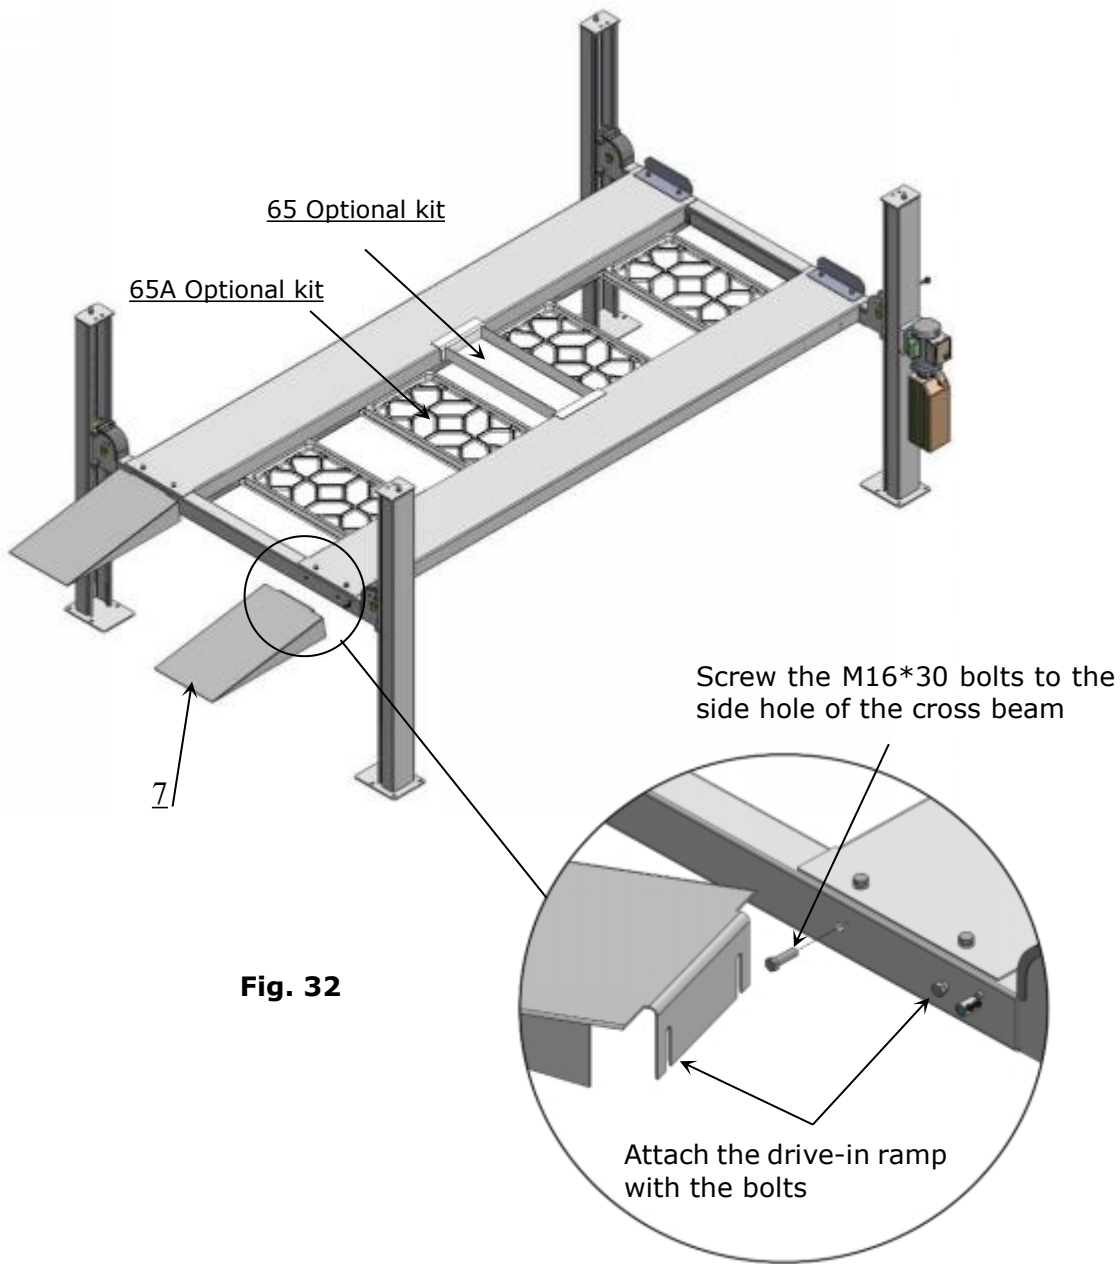

Fig. 32
N. Install drive-in ramp, jack tray and plastic oil pans (See Fig. 32).